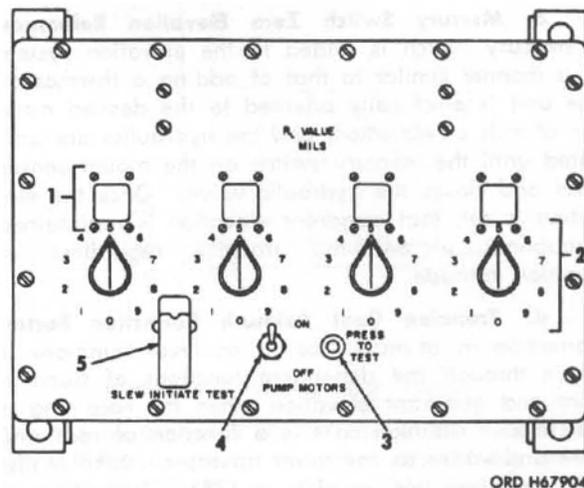

Figure 2. Servocontrol Box
**a. Servocontrol.** The servocontrol is essentially the same as that on the Sergeant missile launcher (fig 2) and is accurate to 1 mil. It is operated from the FDC by a control unit much simplified from the servocontrol box of the Sergeant launcher firing set. The azimuth drive assembly is installed in the M109 to operate directly in the hydraulic traverse system which mechanically gears with the turret race ring. The MANUALPOWER selector lever on the M109 turret has an AUTO position to facilitate servo operation of traverse. When the weapon is laid, the mil value is electronically set on the servocontrol at the time the telescope is trained on the aiming circle, which is sighted on the direct fire telescope by the battery executive officer. When thus set, the servocontrol maintains tube azimuth. Correction to azimuth necessitated by piece displacement is electronically applied to the servo orientation value by the piece displacement sight.